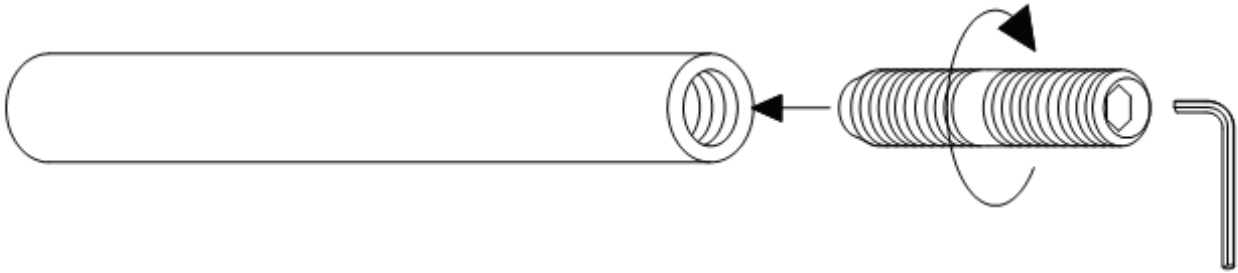

Fig 1
1. For the 88"-126" rod, attach the two rods so that the thicker portion of the rod is in the center. (See Fig. 1)
2. Determine the appropriate location for the rod. It is recommended that the outside brackets be installed a minimum of 2.5"(7cm) above the window. If the length of the rods exceeds 60", one center bracket is necessary. If the length of the rods exceeds 120", two center brackets are necessary. All the brackets need to be installed at the same level. (See Fig.1)
1. Use the included Allen Wrench to tight the connector screw into the end of the rod. (see Fig 1)